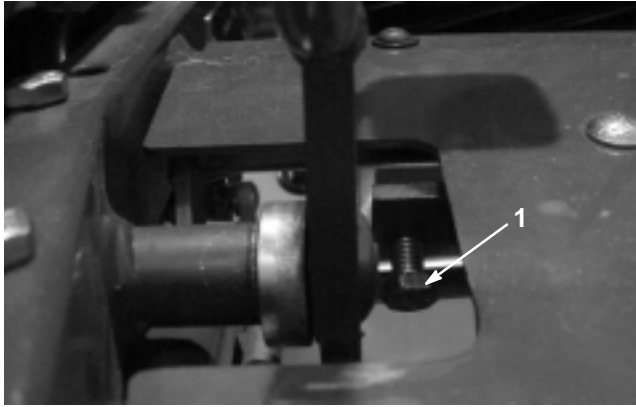

Figure 54
1. Loosen jam nut on pedal lock capscrew (Fig. 54).